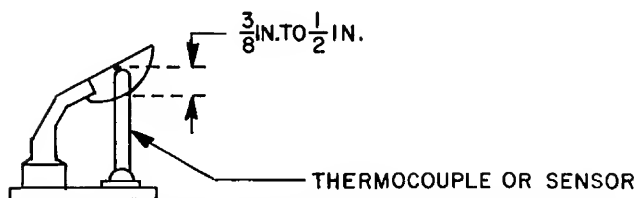

Fig. 13 — Pilot Thermocouple or Sensor Position
5. Adjust pilot flame to envelop the thermocouple a distance of $\frac{3}{8}$ to $\frac{1}{2}$ inch. The adjusting screw for pilot flame is located on main gas control. With standing pilot, rate is approximately 1000 Btuh. See Fig. 13.